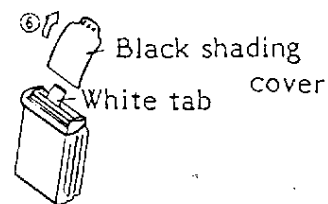

Fig. 9-3
- c. Pull the black tab off the camera back (Fig. 9-3).